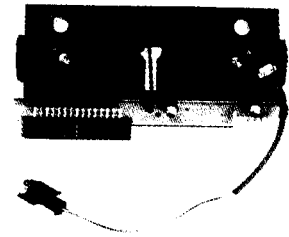

Fig. 2-8
7. Remove the bushes A ⑤ and bushes B ⑥ from the left side of the shaft A ④. Remove the bushes A ⑤, gear B ⑧, tongued washer ⑦, and bush B ⑥ from the right side of the shaft A. Remove the shaft A from the thermal head mounting fitting (black).
8. Replace the thermal head assembly. (Fig. 2-8, 2-9)